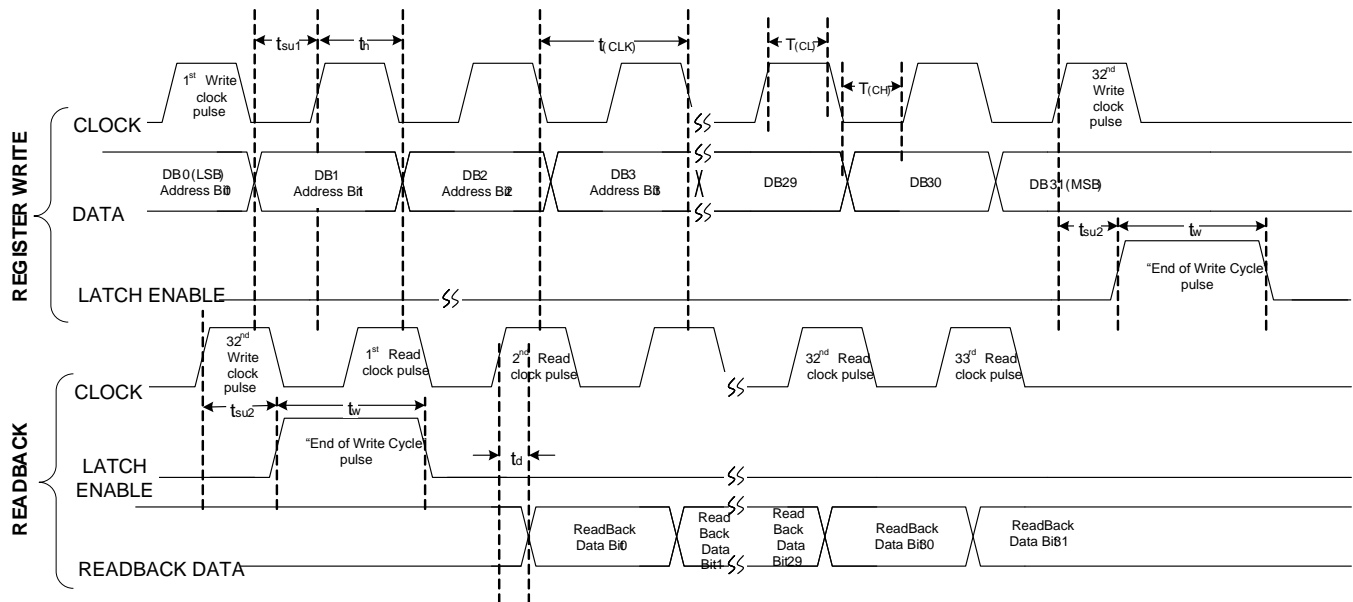

Figure 131. 4WI Read-Back Timing Diagram
TRF3722 integrates 7 registers: Register 0 (000) to Register 6 (110). Registers 1 through 6 are used to set-up and control the TRF3722 functionalities, while register 0 is used for the read-back function. Each read-back is composed by two phases: writing followed by the actual reading of the internal data. This is shown in the timing diagram in Figure 131.